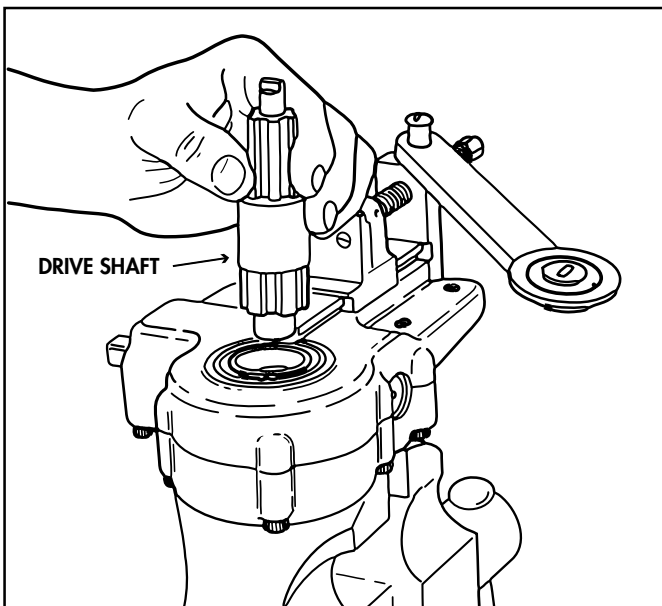

Figure 3. Installing Drive Shaft in Tube Bender Proper
b. Select the proper size drive shaft to fit the form block of the required size and insert the drive shaft into the tube bender proper with the large splines downward. (See figure 3.) Make certain the drive shaft splines are fully engaged and that the drive shaft is inserted all the way into the tube bender so that the lower journal is in the inner race of the ball bearing.(43, figure 12.)